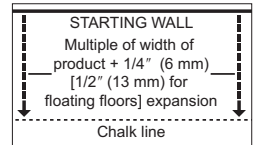

Figure 6
- In at least two places, at least 18" (46 cm) from the corner, measure out equal distance from the starting wall (Figure 6) and snap a chalk line. The measurement must be the sum of the width of the flooring plus an additional 3/8" (9.5 mm) to allow for 1/4" (6 mm) expansion space and the width of the tongue. Allow 1/2" (13 mm) expansion when installing floating floors. Continue to Step 3; Glue or Floating.